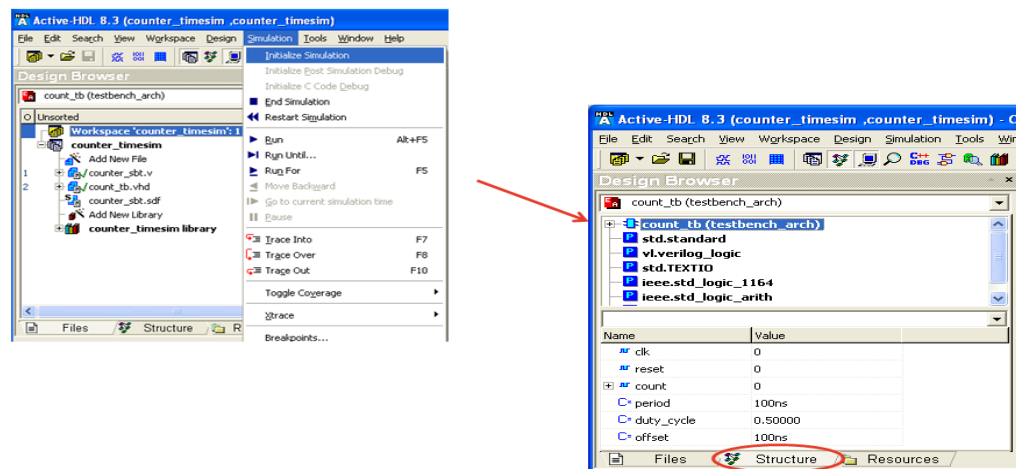

Figure 10-24 : Initialize Simulation
10. Select Simulation > Initialize Simulation. After Initialization, the “Design Browser” view will be changed from “file” view to “Structure” view as shown in Figure 10-24.